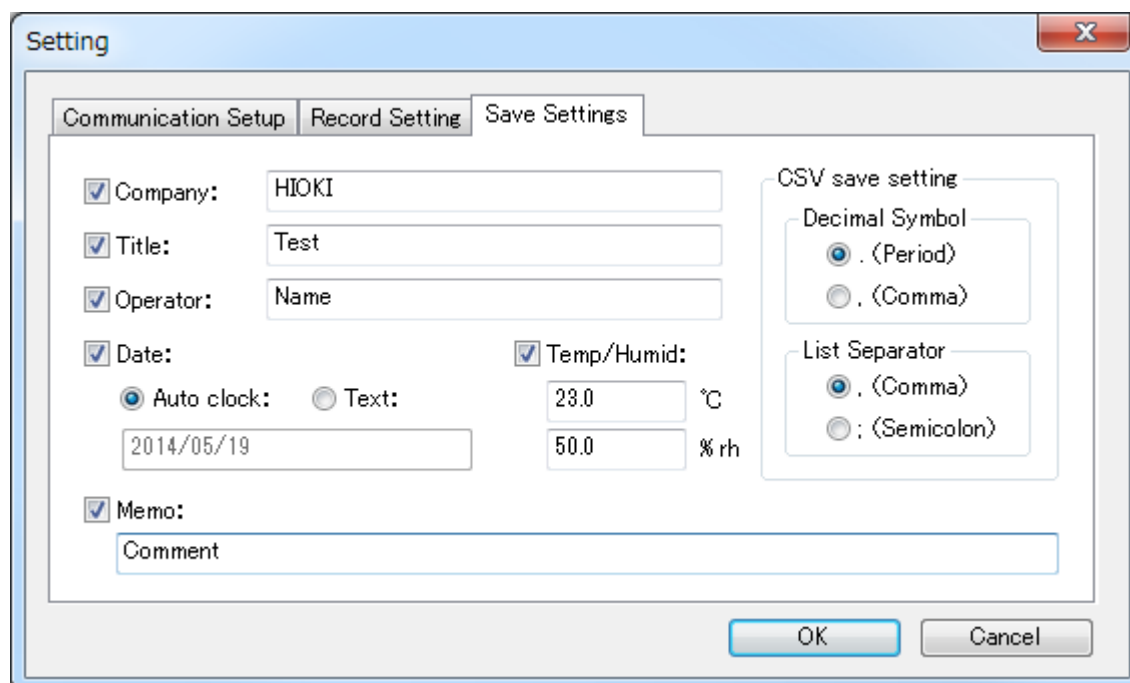

Fig.3-5
Setup data save settings and CSV save settings. (Fig.3-5)
- (1) Application will output contents you checked in check books with saving CSV. All contents are checked in a default.
- (2) When you choose [Auto clock] in Date, it shows the date in PC.
- (3) You don't have to change the setting in the case that local setting is Japan about CSV save setting. (Default setting is expressed in Fig.3-5)